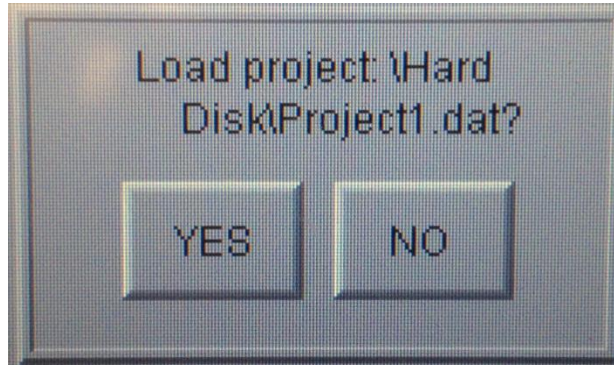
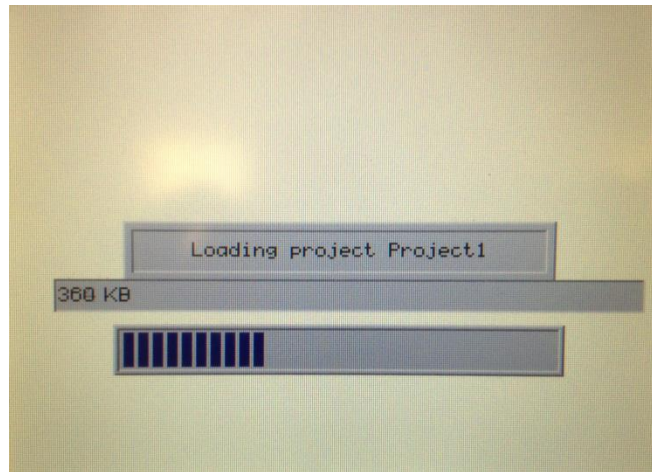

Figure 9: Prompt from EXTER T60 to load Project1.dat
Figure 10: Program loading successfully onto the EXTER T60
3. Once saved, safely remove the flash drive from the PC to the to the USB port on the Bejier HMI. You will be prompted with “Load project: \Hard Disk\Project1.dat?” as shown in Figure 9. Select “Yes” and the EXTER T60 will start downloading the program as shown in Figure 10.